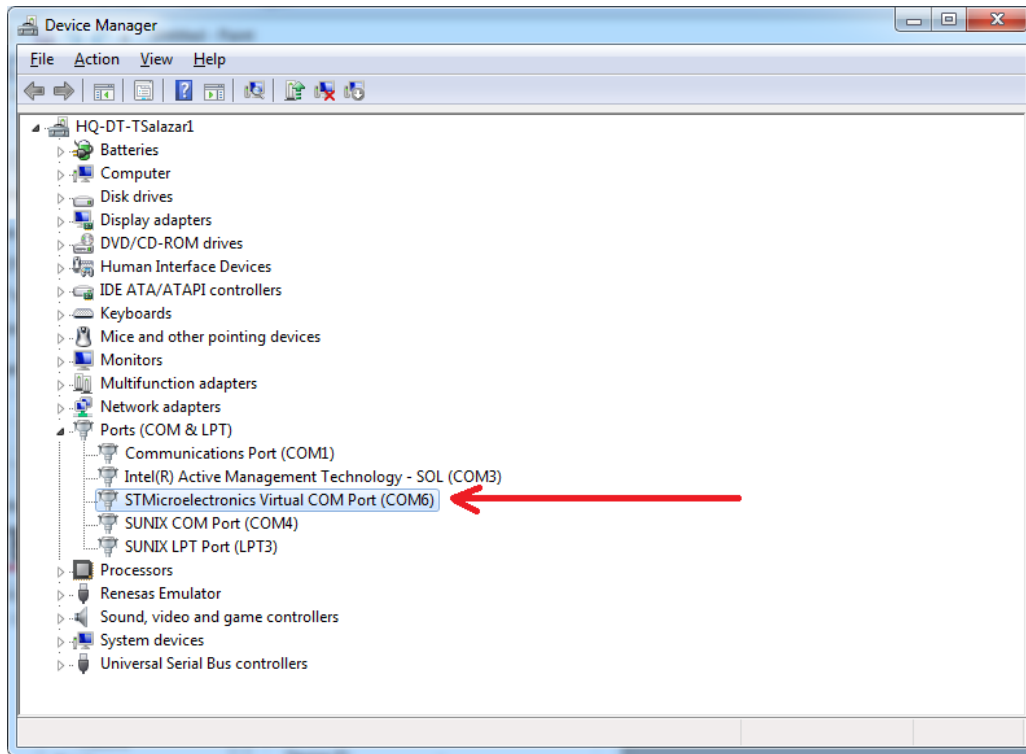

Figure 6. Verify COM port connected as “STMicroelectronics Virtual COM Port (COMx).” It may be a different COM port number on your PC.
- Open Windows **Device Manager** and verify the connected COM port number connected as **STMicroelectronics Virtual COM Port (COMx)** shown in Figure 6.